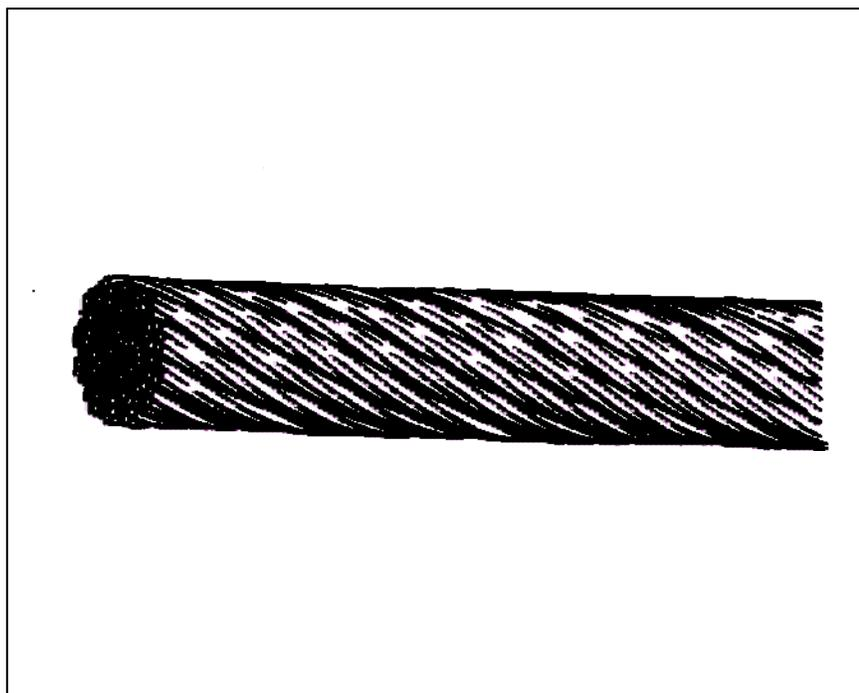

Figure 5.14-2 - Non-Rotating Wire Rope
- b. **Non-Rotating Wire.** This type of wire rope (Fig 5.14-2) has its strands laid up in the same direction as that in which their constituent wires are twisted. All the wires and strands are small, and the inner strands are arranged so that the tendency of the rope to rotate under load is reduced to a minimum. It is very flexible and is particularly suitable as a whip for cranes and single point davits, where strength and non-unlaying action are essential. The wire requires very careful handling before and during installation. It has no tendency to twist either way but it is so pliable that turns either way can be imparted. When making fast the plain end to the side of the drum or crane structure, ensure that the entire cross section of the rope is firmly secured. At present, non-rotating wire rope whips are supplied as made-up items, details of which can be found in the manuals dealing with the maintenance and operating instructions for davits and cranes.